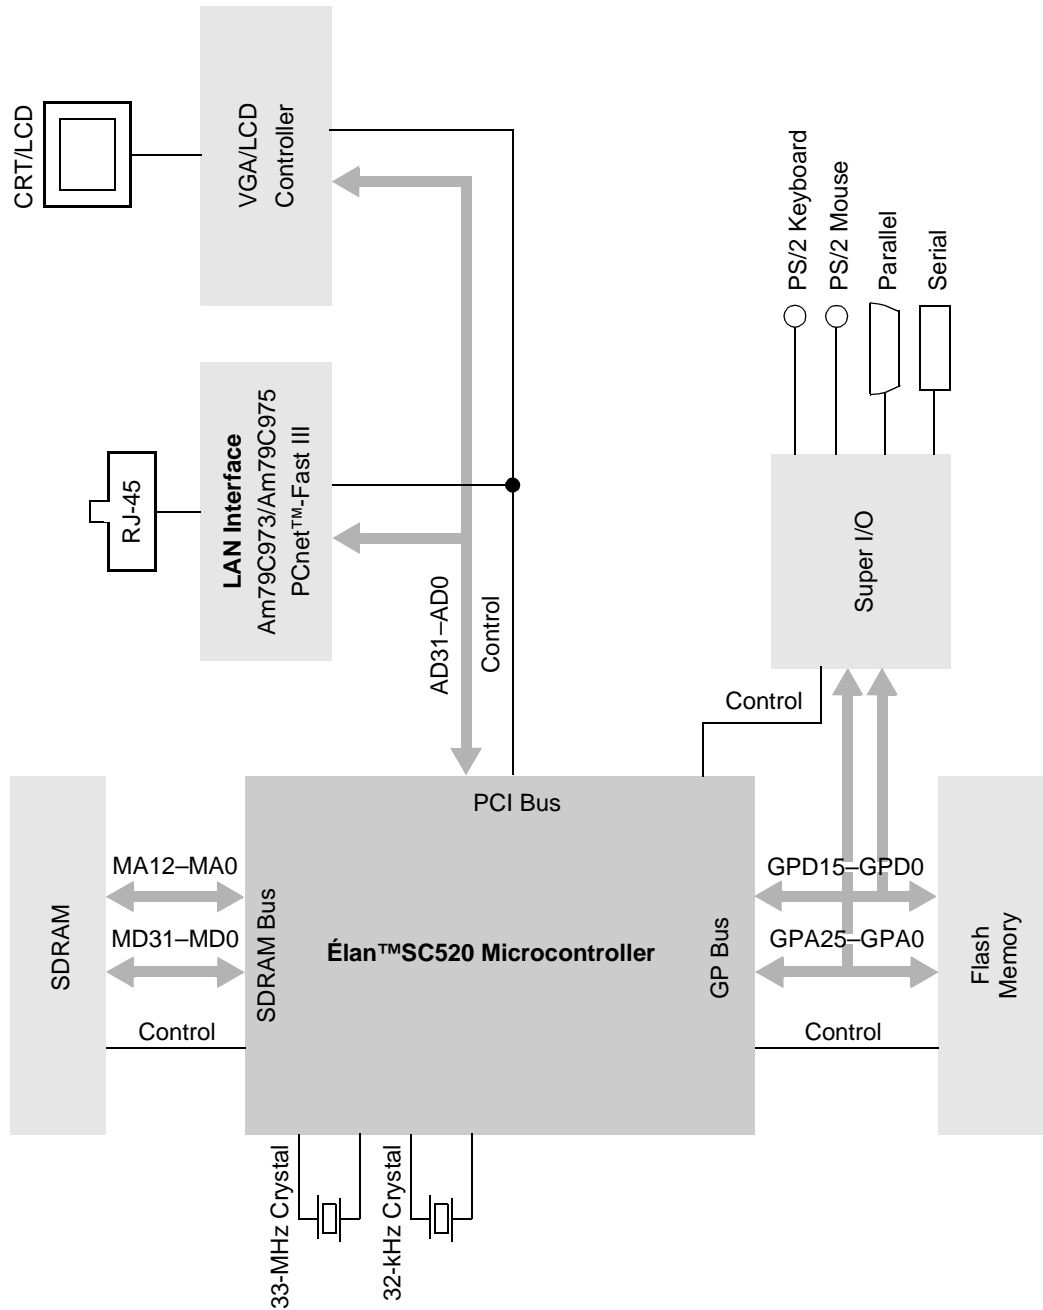

Figure 3. Élan™SC520 Microcontroller-Based Thin Client Reference Design
- Figure 3 on page 35 shows an ÉlanSC520 microcontroller-based "thin client," which is the modern replacement for the traditional terminal in a remote computing paradigm. Application programs run remotely on a server, and data is warehoused on centrally managed disks at the "server farm." An efficient communications protocol transmits keyboard and mouse commands upstream and transmits video BIOS calls downstream. The thin client renders and displays the graphics for the user.